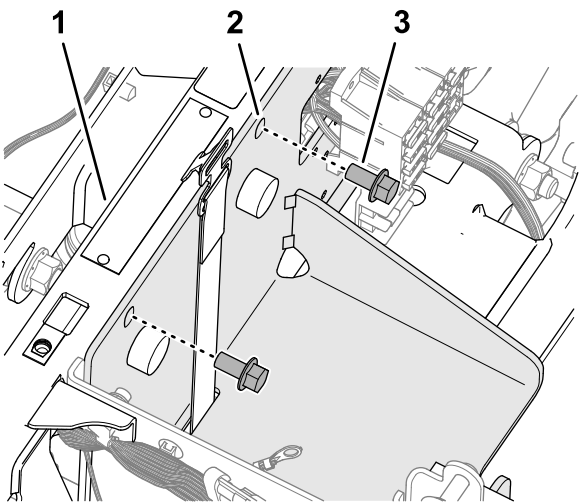

Figure 218
2. Assemble the battery bracket to the shock-support tube (Figure 218) with the 2 flange-head bolt (3/8 x 3/4 inch) that you retained in step 5 of Removing the Battery \(300 A\) and Battery Bracket \(page 96\).
5. Secure the fuse blocks to the battery bracket (Figure 218) with the 3 bolts (10-24 x 3/4 inch) and 3 nuts (10-24) that you removed in step 4 of Removing the Battery \(300 A\) and Battery Bracket \(page 96\).